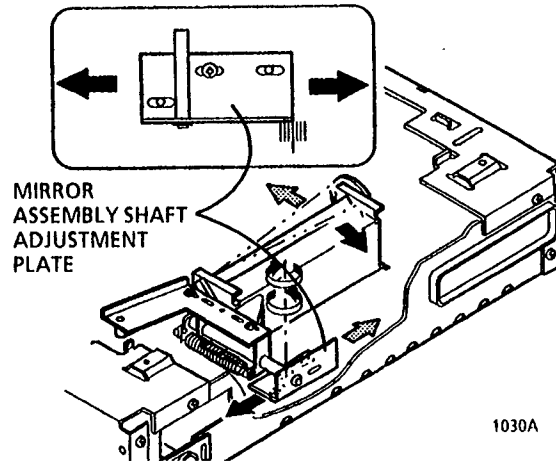

Figure 1. Centering The Mirror Assembly Shaft Adjustment Plate
3. (Figure 1): Move the plate to the center position and tighten the screw.